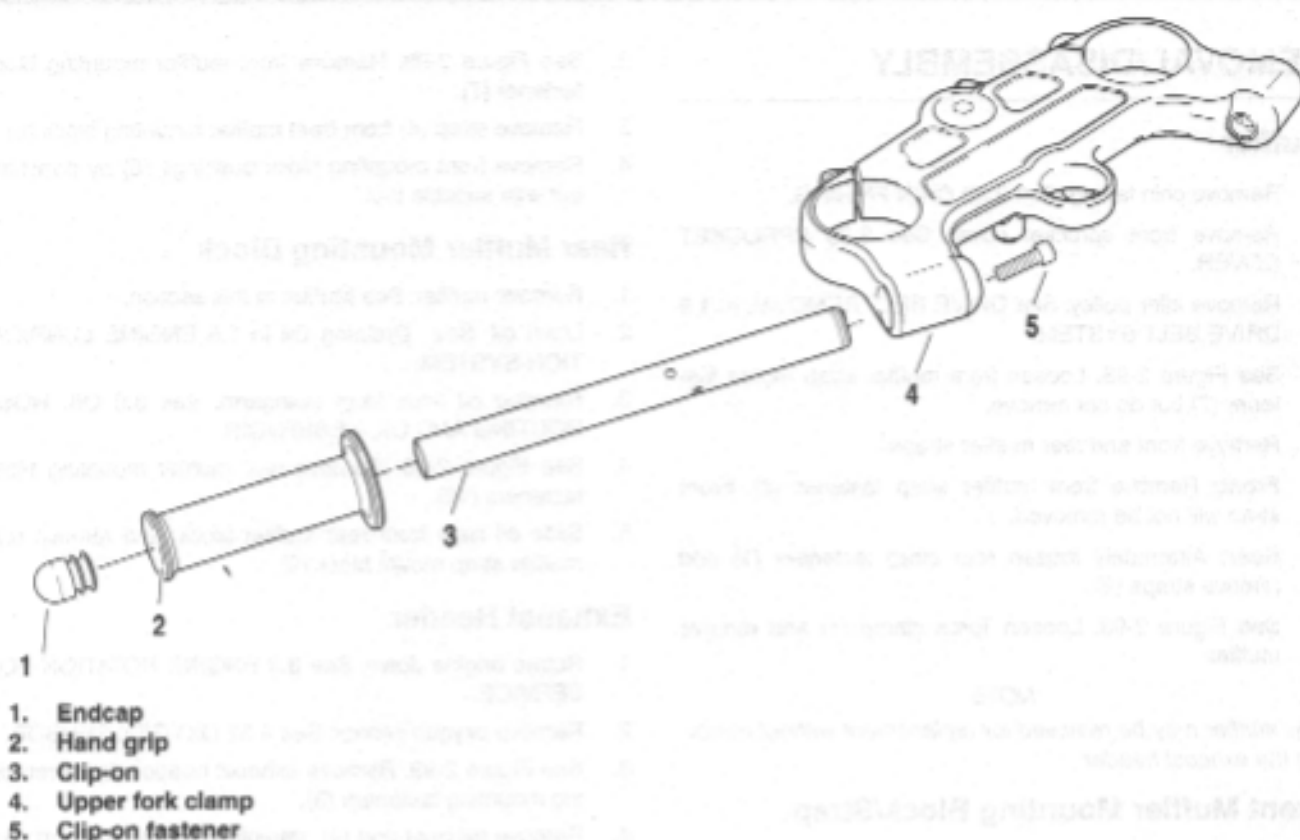

Figure 2-97. Handlebar Clip-on Assembly (left clip-on shown)
3. See Figure 2-97. Remove right clip-on assembly.
- a. Partially loosen clip-on mounting fastener (5).
- b. Using a rubber mallet, tap the partially loosened fastener (5) to push the clip-on (3) from the upper right fork clamp (4). Repeat this procedure until fastener and clip-on has been removed from fork clamp (4).
4. Remove clip-on endcap (1).
- a. See Figure 2-97. Partially loosen clip-on mounting fastener (5).
- b. Using a rubber mallet, tap the partially loosened fastener (5) to push the clip-on (3) from the upper left fork clamp (4). Repeat this procedure until fastener (5) and clip-on (3) has been removed from fork clamp (4).
3. See Figure 2-97. Install grip (2) and endcap (1).
4. Install left clip-on into upper fork clamp (4) and using LOCTITE 272, tighten fastener (5) to 24-26 ft-lbs (33-35 Nm).